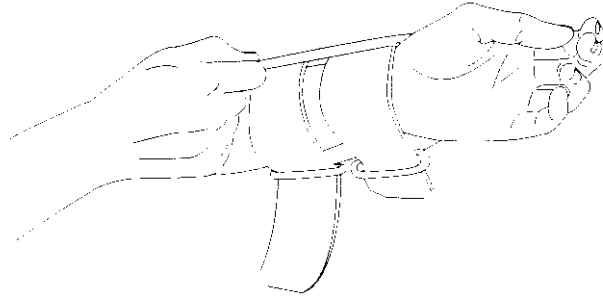

Figure 5-10. Sliding Wrist Mount Onto Arm
1. Slide the wrist mount on your arm, so that the longer strap is further up your arm (Figure 5-10).